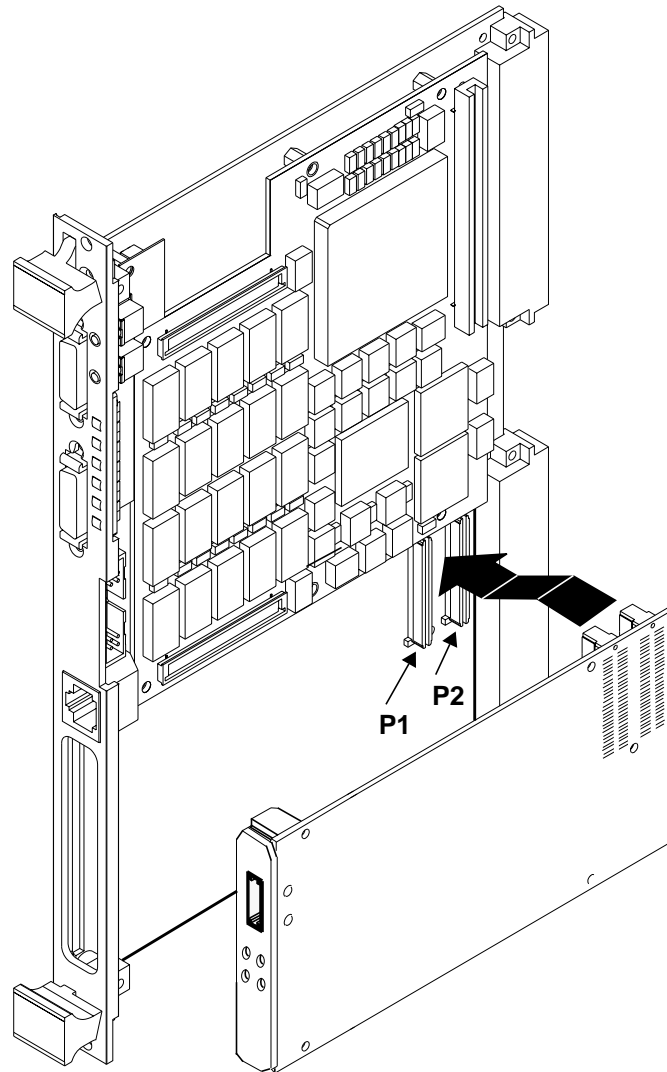

Figure 2-1. Inserting the 4524 Adapter
4. Install the daughtercard as follows (Figure 2-1 illustrates the installation of a PMC adapter on a typical motherboard):